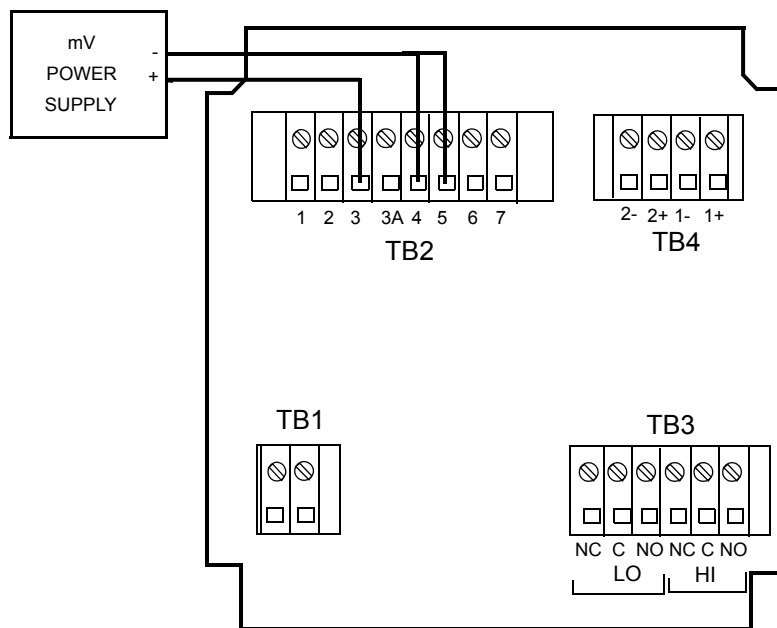

Figure 29. Bench Calibration (Metal Unit Shown)
- a. Connect a mV power supply to Terminals 3 and 5 of TB2 (see Figure 29).
- b. Connect a jumper between Terminals 4 and 5 on TB2 (see Figure 29).
1. Connect a precision voltage source to terminal strip TB2 as shown in Figure 29. Short terminals 4 and 5.